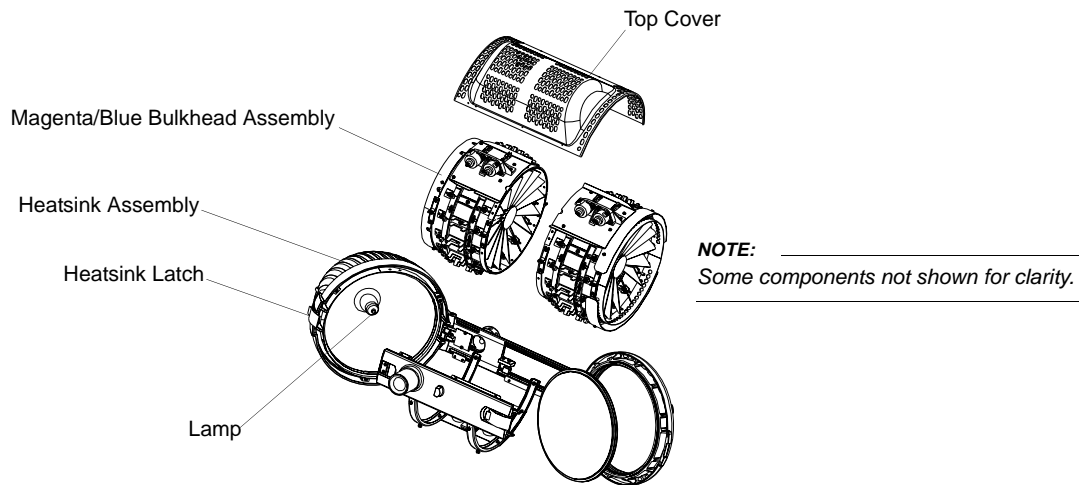

Figure 13: Accessing the Lamp Socket in VL550 and VL550D Fixtures
Step 3. Engage tilt lock so luminaire head is in horizontal position with top cover (one with bubble) facing up (as shown in Figure 13).